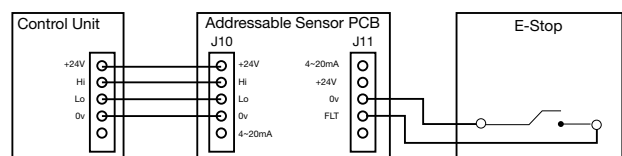

Fig.4
2. Connect external 4~20mA source to the 4~20mA input terminal (J11) on the right hand side of the board as shown in Fig. 2 (For call point/E-Stop see Fig.4)